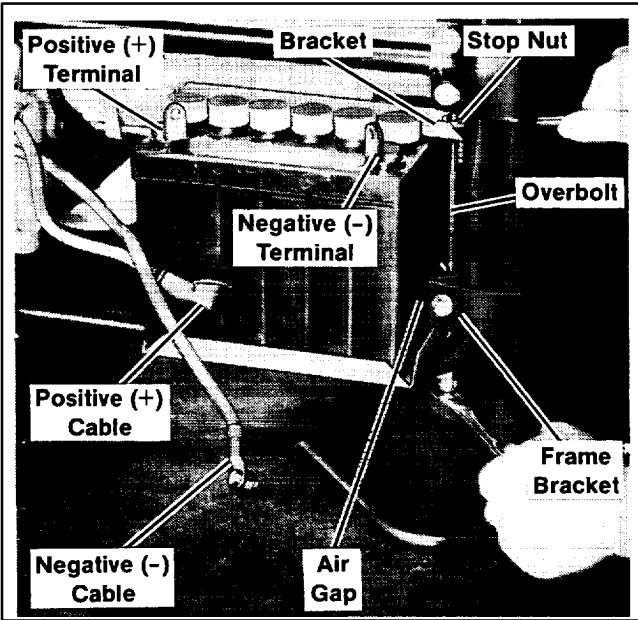

Figure 2. Installing Battery
3. Place battery on rack as shown in Figure 2. Position battery away from frame bracket by locating battery against left edge of rack.